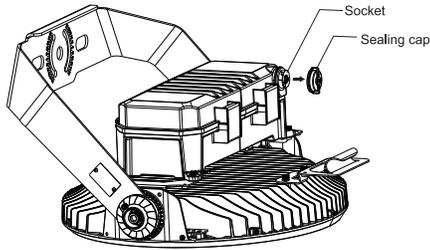

Fig. 37
1. Remove sealing cap from socket by untwisting (Fig. 37).